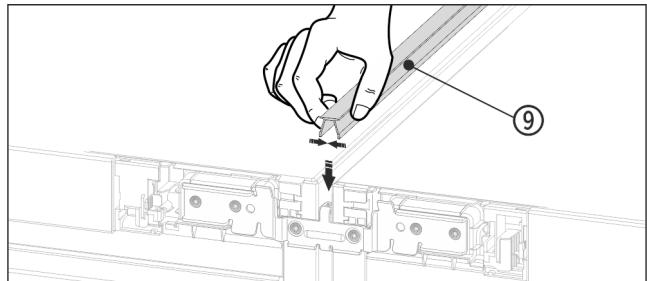

Fig. 19
- ▶ On the top press the short cover strip Fig. 19 (9) into the horizontal gap.